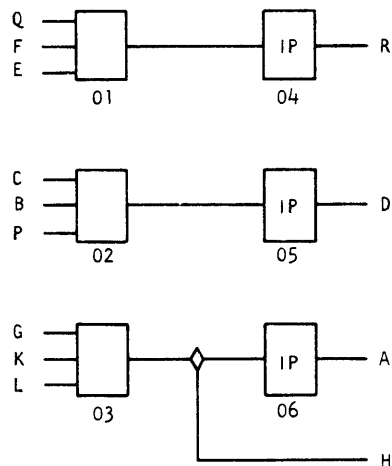

Figure 4-12. DEQ MUP Card
This MUP card (Figure 4-12) contains three separate 3-way AND or OR circuits connected to three separate power inverter circuits (IP). Pin H is the non-inverted output of one of the 3-way AND or OR circuits. The 3-way circuits are similar to TAH and VF circuits, and the power inverters are similar to TFC circuits. Note the absence of pin designations between the 3-way blocks and the inverters.